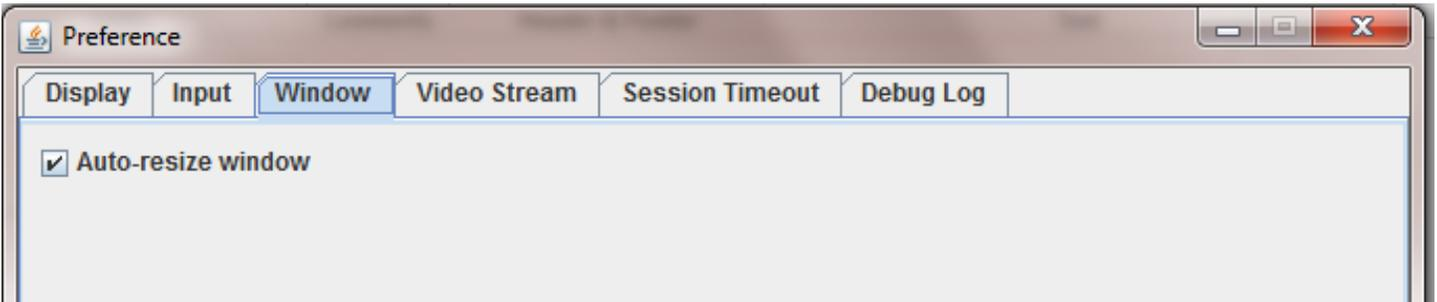

Figure 25. Remote Console Window Settings
- **Window** (Figure 25) – Enable or disable window auto-resize.